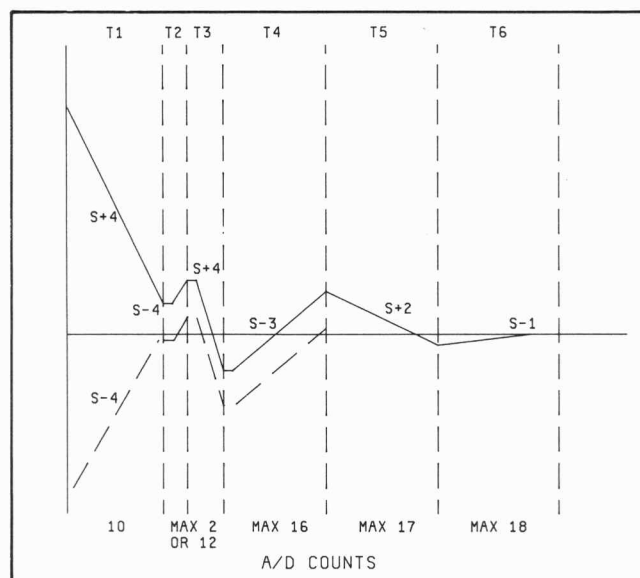

Figure 7-18. Rundown Slopes
7-171. The currents applied to the integrator are called S - 4, S + 4, S - 3, S + 2, and S - 1 currents and the resultant output slopes are the S - 4, S + 4, S - 3, S + 2, and S - 1 slopes. The currents are applied in this order: S - 4 or S + 4, S - 4, S + 4, S - 3, S + 2, and S - 1. Each one of the currents are applied (in the given order) to the integrator until the output slopes cross zero. The S - 4 and S + 4 currents have the same polarity and value as the S - 4 and S + 4 currents used in the runup operation (see paragraph 165). The other currents are at a different value (see paragraph 7-173). Refer to Figure 7-18 for the following explanation on the rundown operation.
a. After runup, the input voltage to the A/D converter is removed and the input of the converter is connected to ground (through Q200 and Q205). The inguard controller then determines the polarity of the remaining voltage on the integrator (C201). Depending on the polarity, either an S - 4 or S + 4 current is applied to the integrator for 10 A/D counts (time T1 in the figure). If the remaining voltage on the integrator is positive, an S + 4 current is applied. If the voltage is negative, an S - 4 current is applied (dashed lines in Figure 7-18). The resultant output slopes at TP INT are negative going slope S + 4 or positive going slope S - 4. The currents are applied to make sure the slopes that follow will be able to cross zero.
7-193. Refer to Figures 7-18 and 7-20 for the following explanation on the A/D logic operation during rundown.
c. If after the one A/D count (i.e., five ALE cycles) no zero crossing is detected (HCP line from the A/D converter changes state), the 5 ALE count is again started by counter U1. (In the example of Figure 7-18, no zero crossing is detected.)